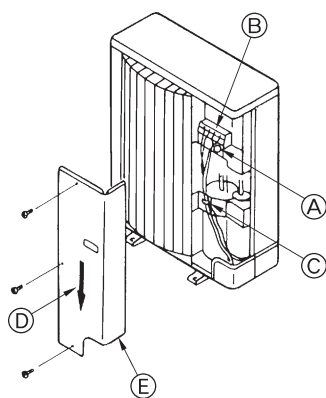

Fig. 6-2
- (A) Indoor unit
- (B) Outdoor unit
- (C) Remote controller
- (D) Main switch/fuse
- (E) Grounding
- (F) Main switch/fuse for Electric heater
- (G) Grounding for Electric heater
6.2. Outdoor unit wiring (Fig. 6-2)